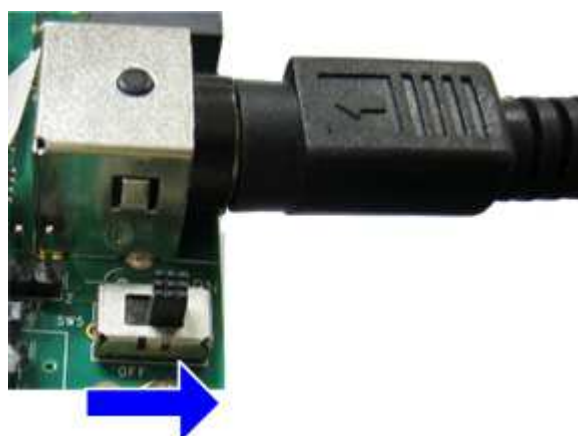

Figure 2-9 Power on FPGA board
- Connect Altera power adapter to FPGA board, as shown in Figure 2-9.